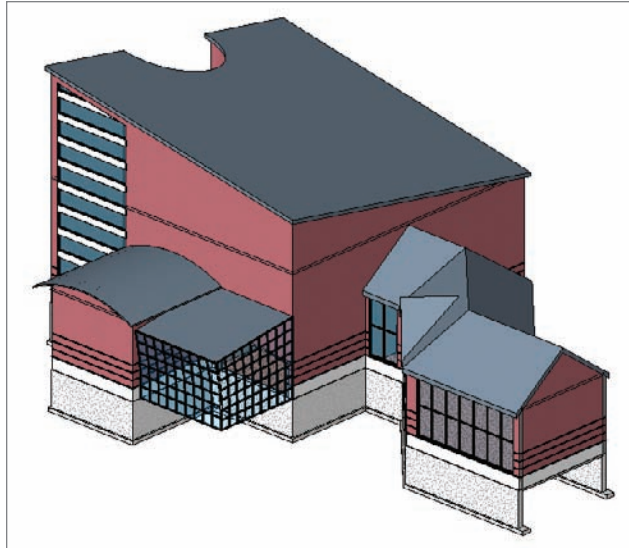

FIGURE 21.9 The 3D existing view
11. Go to the existing 3D view. It should look like Figure 21.9.